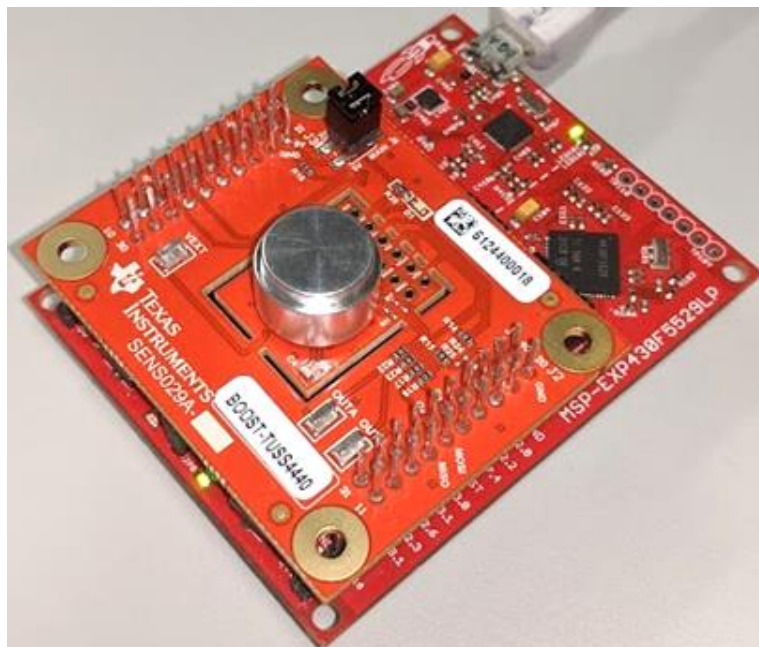

Figure 5. EVM Boards - Assembled
2. Position the power mode jumper for the intended use-case (see Figure 5).
Figure 5 shows the assembled solution for the BOOST-TUSS44x0 board configuration.